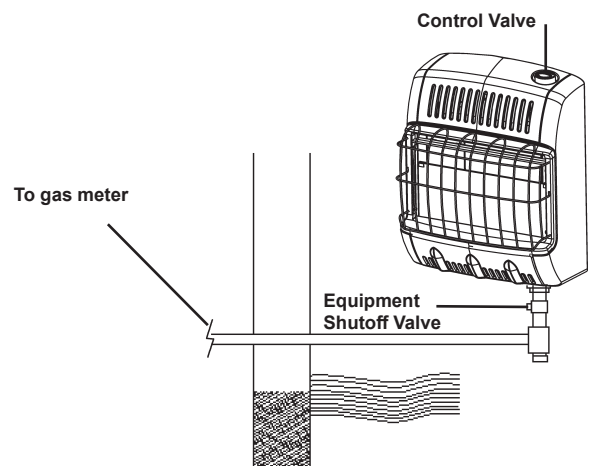

Figure 14
3. Check all joints from the gas meter to equipment shutoff valve (see figure 14). Apply mixture of liquid soap and water to gas joints. Bubbles forming show a leak.
5. Check all joints from equipment shutoff valve to control valve (see figure 14). Apply mixture of liquid soap and water to gas joints. Bubble forming show a leak.